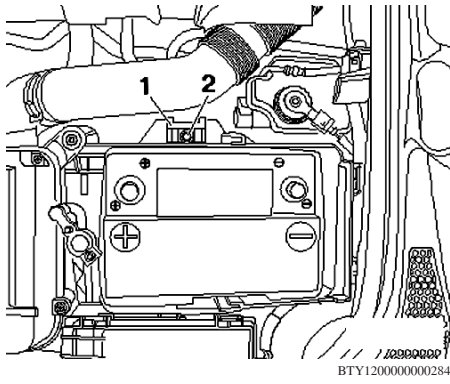

Fig. 3 Battery removal. Engine compartment
10. Remove hex head bolt (2) on battery retaining bracket (1), **Fig. 3**.
2. Install battery bracket (1) and tighten bolt (2), **Fig. 3**.